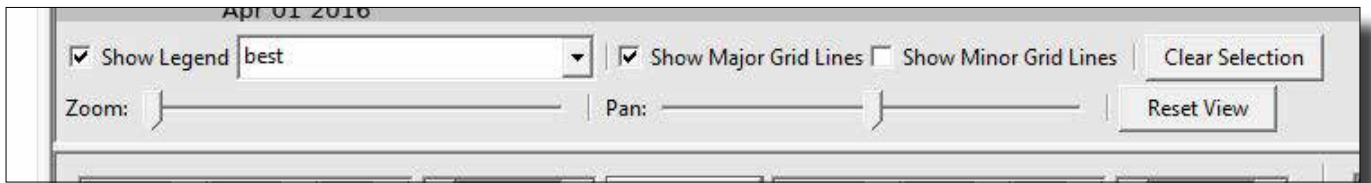

Figure 18: Trend Plotter - Toolbar
- The legend can be turned on and off using the “Show Legend” checkbox in the plot toolbar (Figure 18).
8. Use “Zoom” and “Pan” sliders to zoom into the plot or move it up and down. The view can be reset using the “Reset View” button (Figure 18).